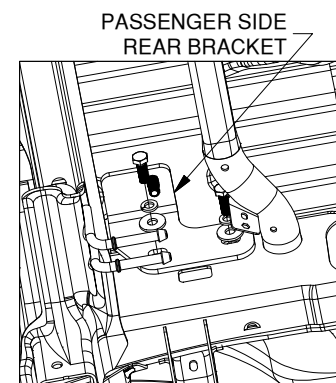

Figure D7: View looking up at passenger side frame.
8. **Install the passenger side rear bracket.** Locate the passenger side rear bracket, two M12 x 35mm hex head bolts (shorter), two 1/2" split lock washers, and two 1/2" flat washers. Position the bracket under the installation location of the rear passenger side carriage bolt. Maneuver the bracket so that the 1/2" carriage bolt passes through the slot at the top of the bracket. Using 1/2" lock washers and 1/2" flat washers, thread the shorter (35mm) M12 hex head bolts into the frame through the holes in the bracket, see Figure D7.